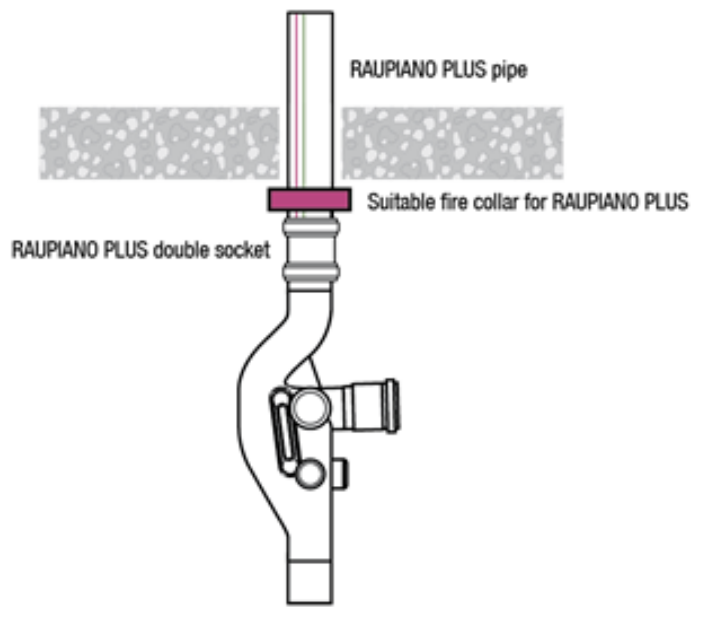

Figure 4.2 Possible fire collar configurations for RAUVENT stack slab penetrations.
- If the fire protection collar is installed on the RAUVENT fitting spigot (vertical inlet), an approved fire protection solution for DN110 HDPE pipe is required to be installed above the weld seam, as pictured in Figure 4.2. Please see Figure 1.2 for dimensions of the HDPE Spigot and consult fire collar manufacturers for compatibility confirmation and approval.
If a fire collar is installed on the RAUVENT fitting spigot (vertical inlet, as shown in figure 4.2), the fire collar must be suitable for use with the HDPE spigot. See Figure 1.2 for dimensions. Consult fire collar manufacturers for compatibility confirmation and approval.